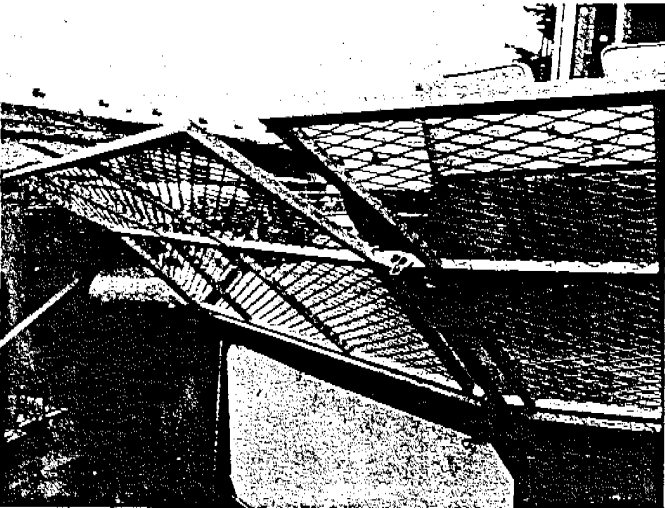

Fig. 28
- d. Install the large fence sections to the fence posts. SNAP KEY. (Fig. 28)